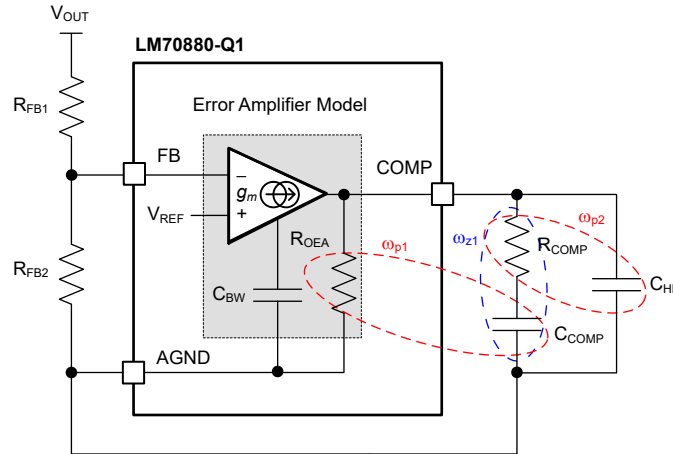

Figure 8-3. Error Amplifier and Compensation Network
A Type-II compensator using a transconductance error amplifier (EA) is shown in Figure 8-3. The dominant pole of the EA open-loop gain is set by the EA output resistance, R_{OEA} , and effective bandwidth-limiting capacitance, C_{BW} as shown by Equation 23.
The EA compensation components create a pole close to the origin, a zero, and a high-frequency pole. Typically, $R_{COMP} \ll R_{OEA}$ and $C_{COMP} \gg C_{BW}$ and C_{HF} , so the approximations are valid. Figure 8-3 circles the poles in red and the zero in blue.